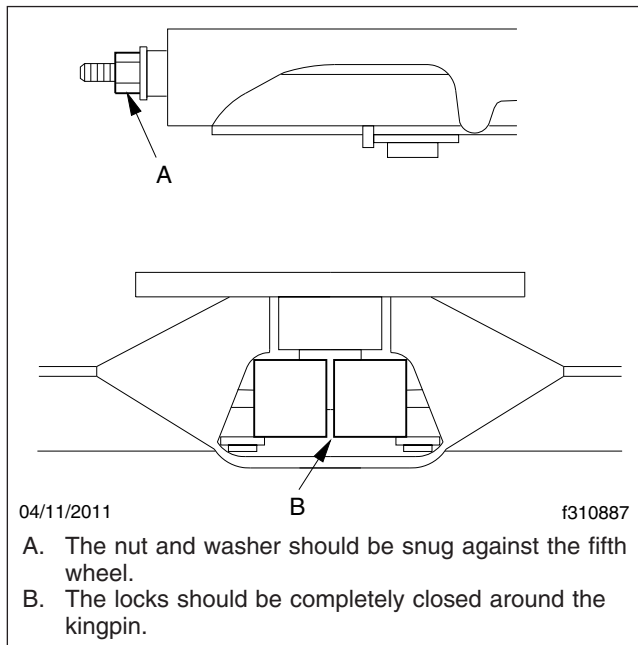

Fig. 3, Holland Fifth Wheel Properly Closed
- Using a Holland Kingpin Lock Tester (Holland tool number TF-TLN-5001, available through the PDCs as HLD TFTLN5001), check the operation of the locking mechanism by opening and closing the locks. See Fig. 3.